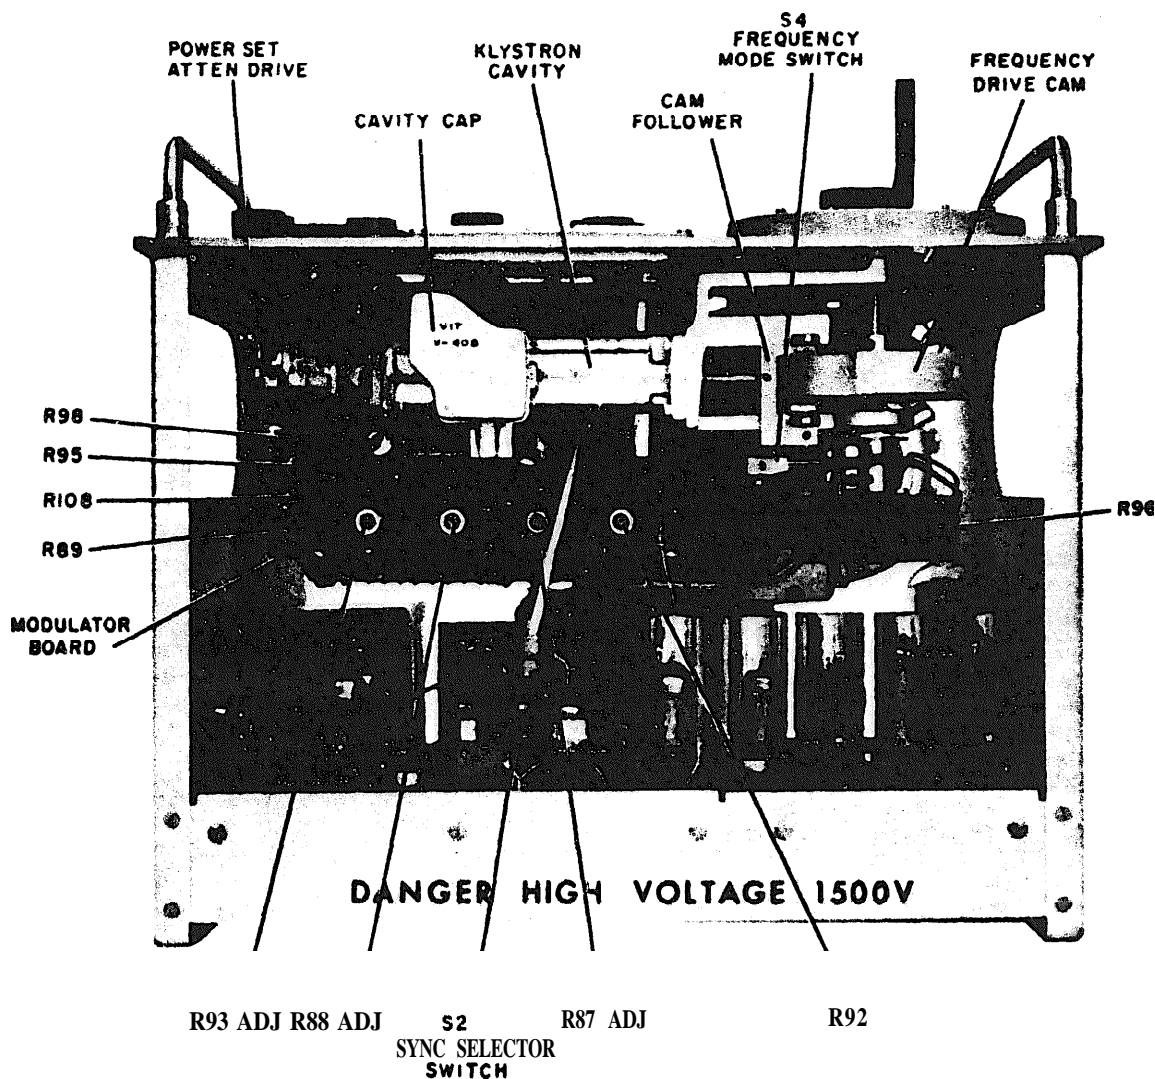

Figure 5-9. Top View Showing Location of Reflector Tracking Pots
- f. Set potentiometers R89 and R95:(Figure 5-9) to approximate center of range over which they are rotated. These two controls are located on the bottom edge of the assembly.
5-43. INITIAL TRACKING PROCEDURE. Refer to Figure 5-9 and proceed as follows: